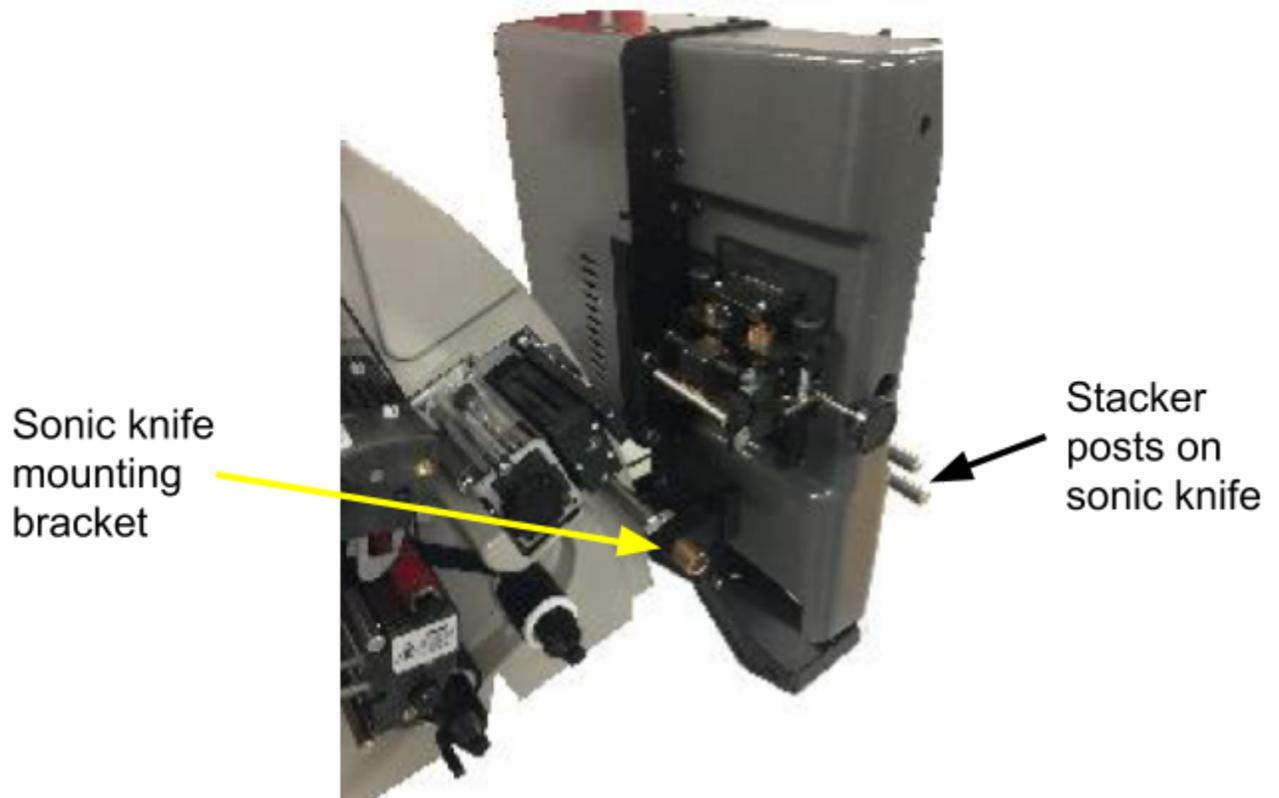

Figure 2
2. Place the sonic knife in front of and to the right of the printer. Position the knife so that the support bracket on the sonic knife aligns with the bottom stacker support post as shown in Figure 2. The sonic knife is not free-standing to keep positive control over the knife until it is securely installed on the printer.